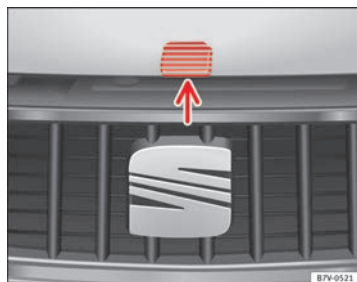

Fig. 169 Release lever to open the bonnet in the radiator grille
- Lift the bonnet using the release lever ⇒ Fig. 169 (arrow) and open the bonnet fully. The bonnet is held open thanks to the gas strut.